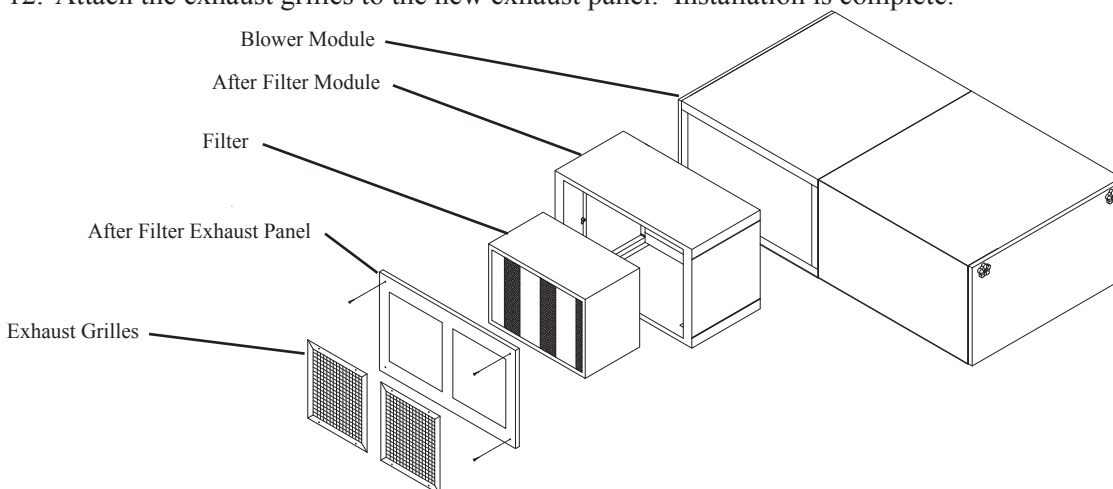

FIG 10
2. Open the access cover to the electrical box; exposing the timer board within (see FIG 10).